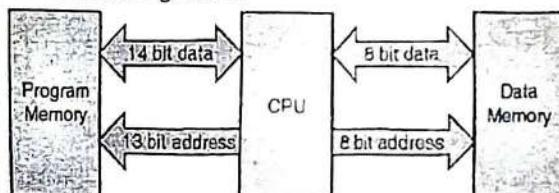

Fig. 1.13.1 : PIC18 program and data memory space
- The program memory address bus is 21-bit while the data memory address bus is 12-bit. Since most of the instructions are 16-bits, the data bus or instruction bus size of program memory is also 16-bit. The data bus size of data memory is 8-bit. The PIC18 memory space is shown in Fig 1.13.1. All these buses are separate as shown in Fig. 1.13.1.